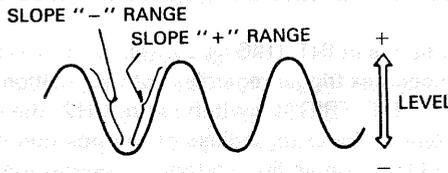

Fig. 8
Trigger point on waveform is adjusted by the LEVEL/PULL SLOPE ⑱ control. Fig. 8 shows the relationship between the SLOPE and LEVEL of the trigger point. Triggering level can be adjusted as necessary.